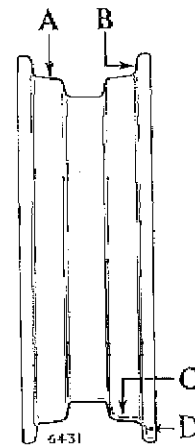

Fig. 2. Rim lift and wobble. "A" and "B" indicate the check points to be used on a rim but points "C" and "D" can be used when the tyre is mounted
- (g) Wheel lift and wobble. On a truly mounted and revolving wheel the difference between the high and low points measured at any location on either tyre seat (Fig. 2 at "A") should not exceed 0.050 in. (1.0 mm). The lateral variation measured on the vertical inside face of the flange (Fig. 2 at "B") should not exceed 0.050 in. (1.0 mm). The positions "C" and "D" may be used when the tyre is mounted on the rim.